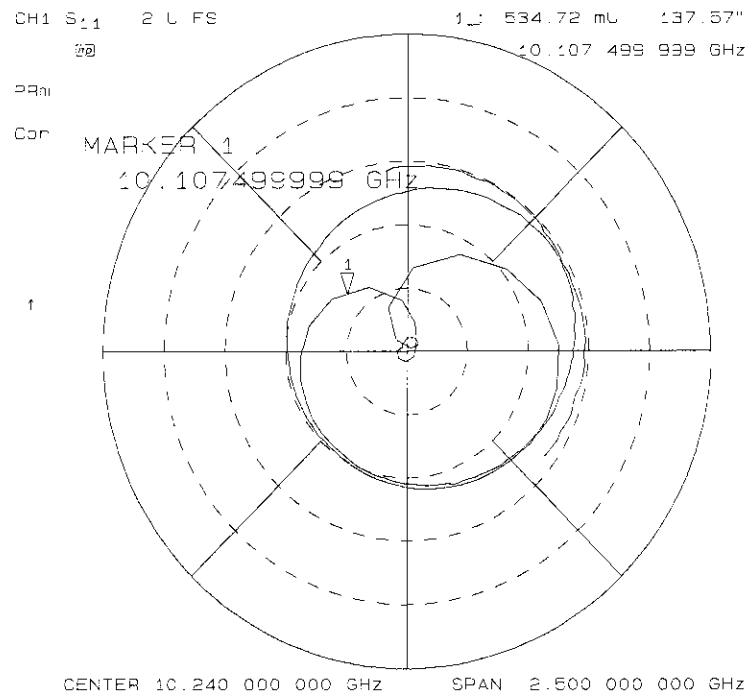

Figure 2-14.
2. Press **[Scale Ref]** **AUTO** **SCALE** to reposition the trace, as shown in Figure 2-14.
The analyzer shows the results of an S_{11} measurement with each point on the polar trace corresponding to a particular value of both magnitude and phase. The center of the circle represents a coefficient (Γ) of 0, (that is, a perfect match or no reflected signal). The outermost circumference of the scale shown in Figure 2-14 represents $\rho = 2.00$, or 200% reflection. The phase angle is read directly from this display. The phase angle is read directly from this display. The 3 o'clock position corresponds to zero phase angle, (that is, the reflected signal is at the same phase as the incident signal). Phase differences of 90° , 180° , and -90° correspond to the 12 o'clock, 9 o'clock, and 6 o'clock positions on the polar display, respectively.
4. Turn the front panel knob to position the marker at any desired point on the trace, then read the frequency, linear magnitude and phase in the upper right hand corner of the display, as shown in Figure 2-14.